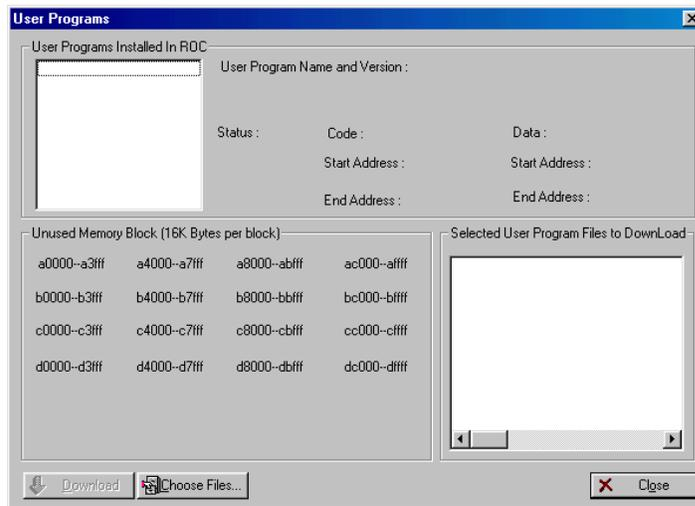

Figure 2. User Programs Dialog Box
4. Select **Download User Programs**. The User Programs dialog box will appear. See figure 2.